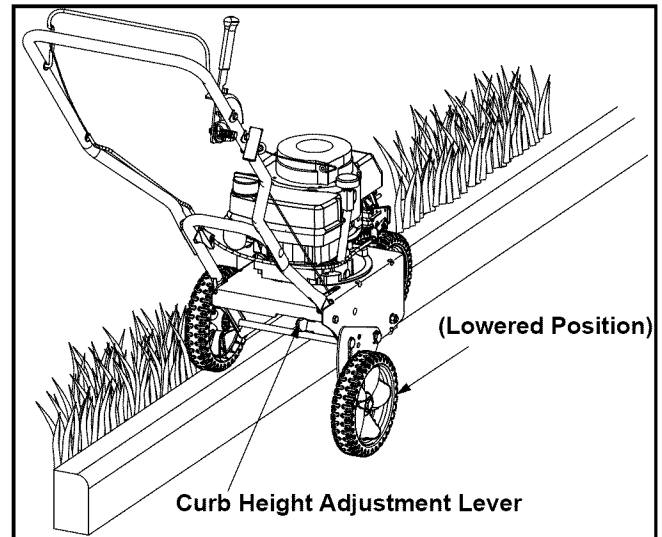

Figure 7
- Release the curb height adjustment lever to lock the wheel in position. See Figure 7.